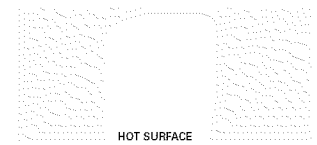

Figure 4
3. **When cooking has completed, turn the surface control knob to OFF before removing the cookware.** **Note:** The Hot Surface Indicator light (Figure 4) will come on when the control knob is turned on and will continue to glow until the glass cooktop has cooled down to a moderate level. The light may remain on even though the controls are turned OFF.